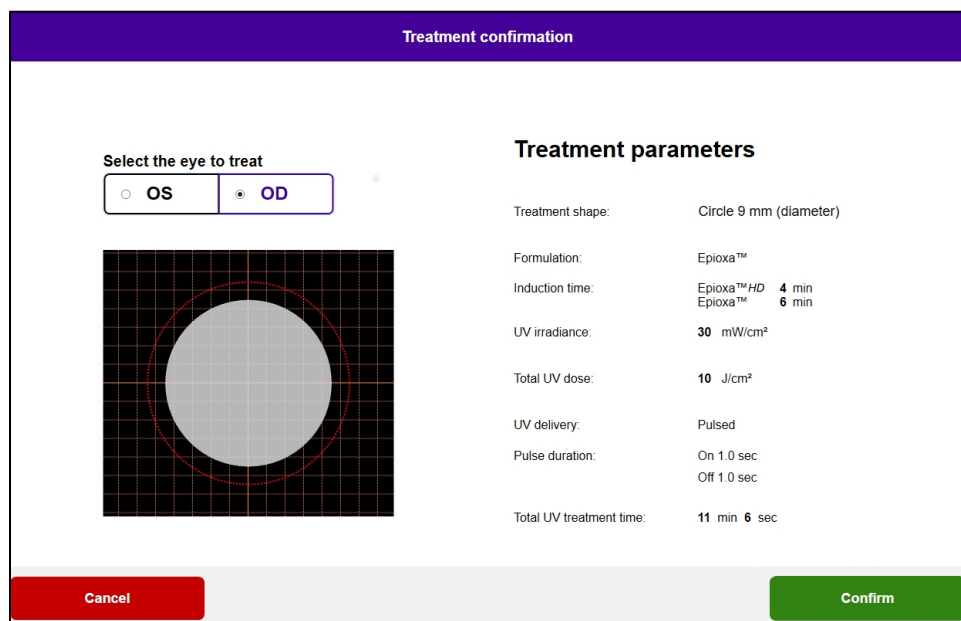

Figure 3-7. Treatment Confirmation Screen
- The Treatment confirmation screen is shown in Figure 3-7.